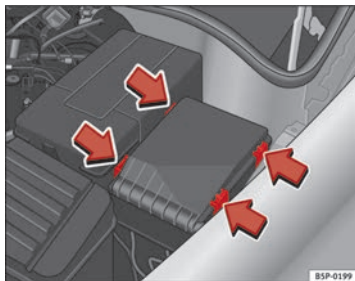

Fig. 180 Fuse box cover in engine compartment
- Prise off the fuse cover in the engine compartment by pressing the tabs towards the centre of the cover ⇒ Fig. 180.